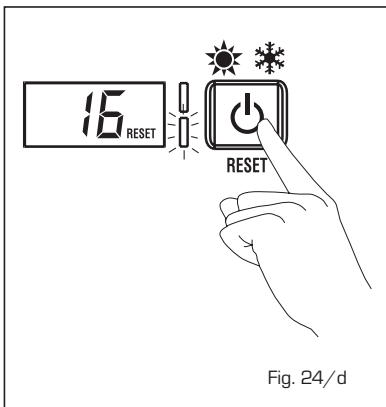

Fig. 24/d
- FUMES DISCHARGE ANOMALY ALARM 01 (fig. 24)
- LOW WATER PRESSURE ANOMALY ALARM 02 (fig. 24/a)
- FLAME BLOCK ALARM 06 (fig. 24/b)
- SAFETY THERMOSTAT ANOMALY ALARM 07 (fig. 24/c)
(fig. 24/d)